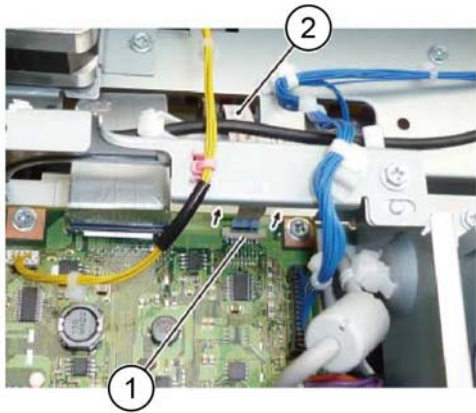

Figure 6 Cable assembly disconnection (3)
9. Disconnect the FFC LED cable assembly from the ESS chassis assembly, Figure 6:
- a. Move the connector housing catch (1) in the direction of the arrow.
- b. Disconnect the FFC LED cable assembly (2).